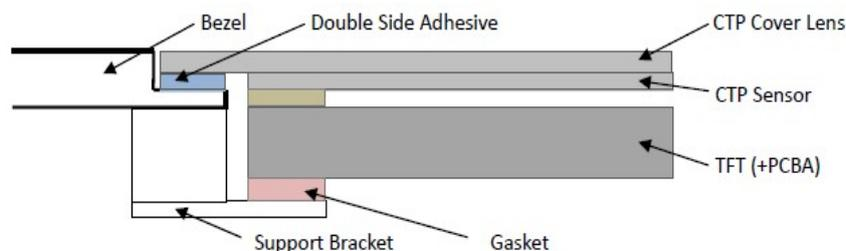

Figure 2
8.2 Surface Mounting (Figure 2)